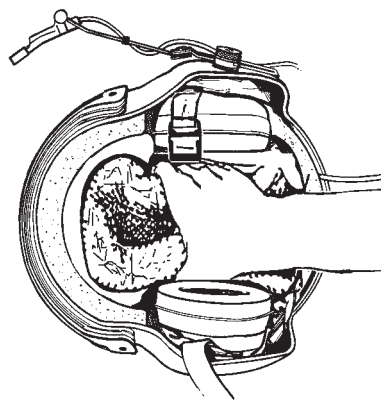

Figure 4-13. Removing TPL
2. Referring to Figure 4-13, remove the TPL from the helmet.